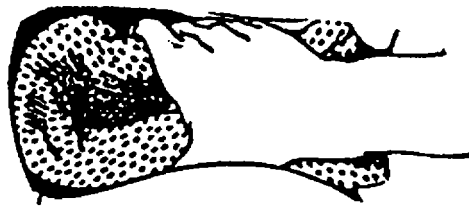

Figure 3-2. Liner Removal/Installation
1. Squeezing sides of thermoplastic liner, remove it from helmet (Figure 3-2).
2. Squeezing sides of thermoplastic liner, reinstall it in helmet (see Figure 3-2). Ensure hook-and-pile fasteners are engaged.